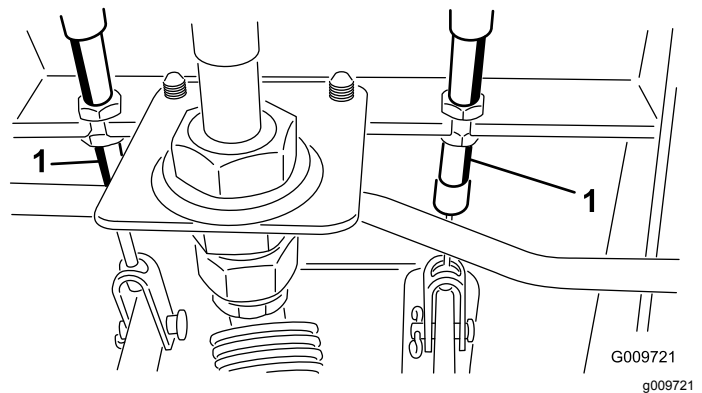

Figure 114
- A. Loosen the front nut on the threaded end of the brake cable (Figure 114).